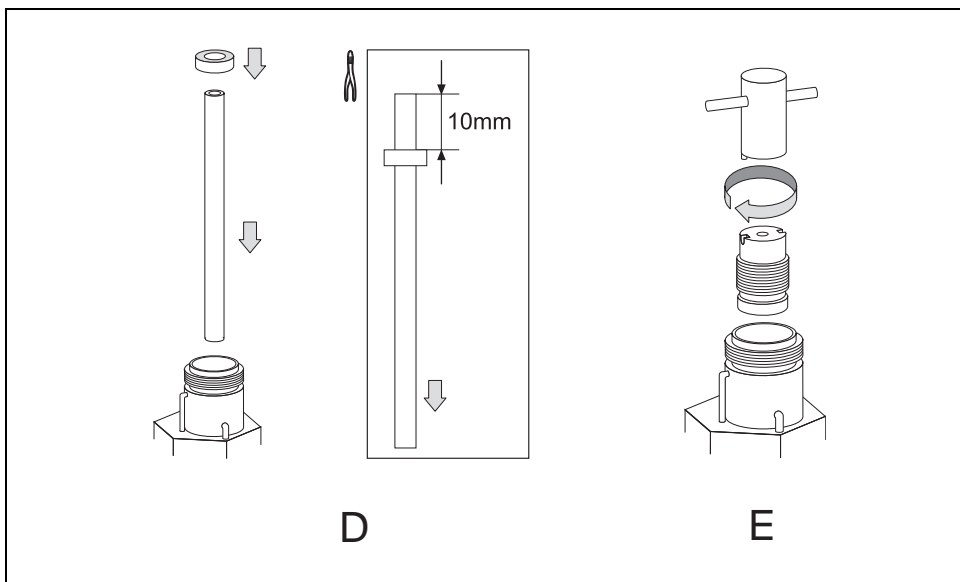

Figure 15-4. Replace and Clean the Liner (2)
9. Using tweezers, insert the liner into the injector and push it gently towards the bottom fitting. See D of Figure 15-4.
10. Tighten the liner cap using the liner cap wrench provided with the GC. See E of Figure 15-4.